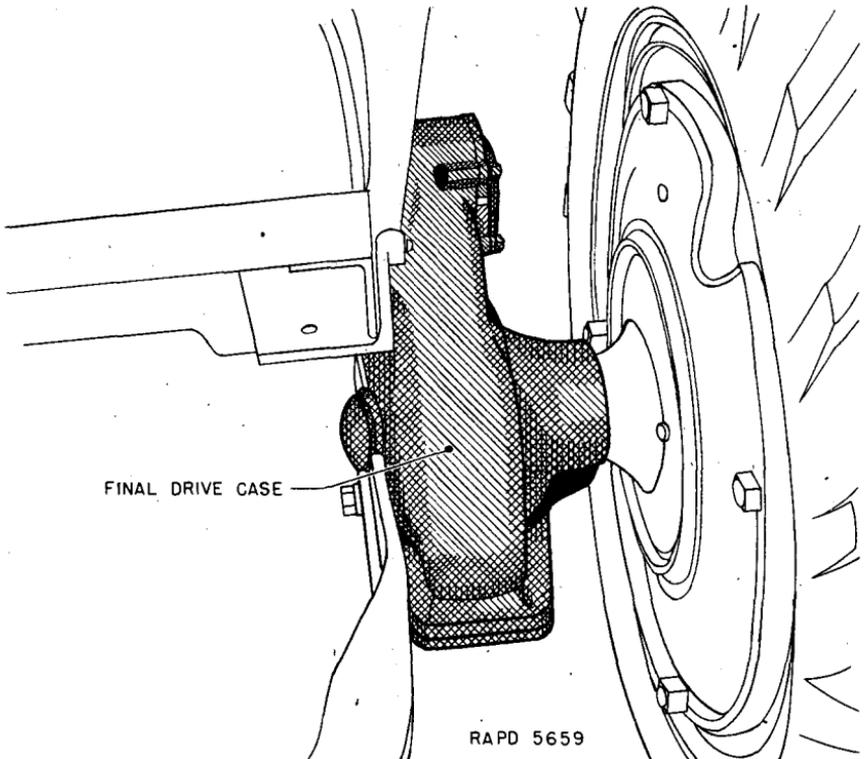

FIGURE 22.—Final drive case.
**58. Final drive.**—*a. Description.*—A housing for the final drive gears (figs. 22 and 23) is attached to each side of the transmission case by four studs and nuts. A pinion shaft connects the final drive reduction gearing with the differential and transmission. Keyed to each pinion shaft is a brake drum through which the hand brake acts to stop the rear wheels. At the outer end of each pinion shaft is mounted a small final drive gear which meshes with a large final